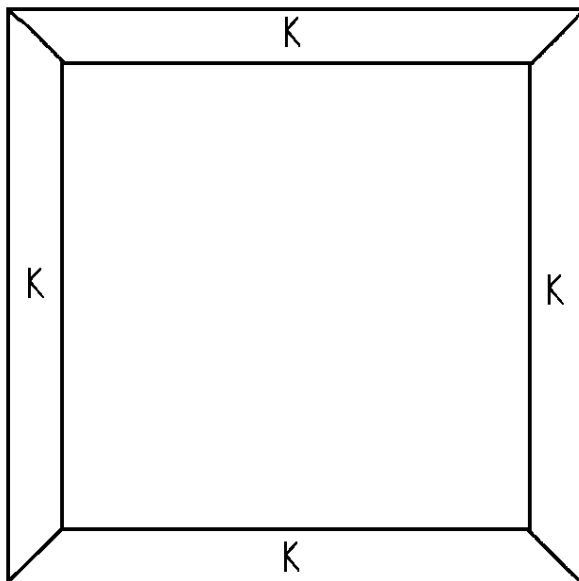

Figure 13
1. Cut four Peak Cover Sides (K) from 2 x 6 pine, each measuring 16 inches.
2. Miter each end of the four Peak Cover Sides (K) at opposing 45-degree angles, as shown in *Figure 13*.
1. Cut three Planter Outer Sides (L), from 5/4 x 6 deck boards, each measuring 58-3/4 inches.
2. Cut two Planter Inner Sides (M) from 5/4 x 6 deck boards, each measuring 54 inches.
3. Cut one Planter Middle (N) from 5/4 x 6 deck boards, measuring 49-3/4 inches.
4. Cut two Planter Ends (O) from 5/4 x 6 deck boards, each measuring 5-1/2 inches.
5. The planter boxes are built around the four Corner Posts (D). Measure and mark each of the four Corner Posts (D) at a height of 32 inches above the Floorboards (E). Each of the six planter pieces (L, M, N, and O) is mitered on both ends. The ends of the three Planter Outer Sides (L), Planter Middle (N), and Planter Ends (O) are mitered at opposing 45-degree angles. The two Planter Inner Sides (M) are mitered at the same 45-degree angle. Refer to *Figure 13* to be certain that your 45-degree miter is cut properly.
6. Measure your structure carefully and work in rotation around the Corner Posts (D). First add the three Planter Outer Sides (L), one at a time. Then add one Planter Inner Side (M), then the Planter Middle (N), the remaining Inner Side (M), and finally the Planter Ends (O). Apply glue to the meeting surfaces, and use two 2-1/2" wood screws on each joint.
7. Cut three Planter Bottoms (P) from 1 x 4 pine, each measuring 49-1/2 inches.
8. Insert one Planter Bottom (P) flush with the bottom edge of the Outer and Inner Planter Sides (L and M). Nail through the Outer and Inner Planter Sides (L and M) into the edges of the Planter Bottom (P), using 2-inch finish nails spaced every 5 inches.
9. Repeat Step 8 to add the remaining Planter Bottoms (P) to the opposite side and back of the structure.
4. Attach one of the Horizontal Supports (R) to one Planter Bottom (P), between the two Vertical Supports (Q), again $\frac{3}{4}$ inch in from the edge. Apply glue to the meeting surfaces and nail through the Horizontal Support (R) into the face of the Planter Bottom (P), using 1-1/4" finish nails spaced every 4 inches.
5. Repeat Step 4 twice to attach the remaining Horizontal Supports (R) to the two remaining Planter Bottoms (P).
6. Cut three Trellis Panels (S) from lattice, each measuring 32 x 49-1/2 inches.
7. Place one Trellis Panel (S) over the Horizontal and Vertical supports (Q and R), as shown in Figure 13.
8. Nail through the Trellis Panel (S) into the Horizontal and Vertical Supports (Q and R), using 1-1/4" finish nails spaced 6 inches apart.
9. Repeat Step 8 twice to add the remaining two Trellis Panels (S) under the Planter Bottoms (P).
10. Repeat Steps 3 through 6 to add one Horizontal and two Vertical Supports (Q and R) on the opposite side of each Trellis Panel (S). Horizontal supports have not been added to the bottom of the lattice, to make it easier to hose debris off the completed structure.